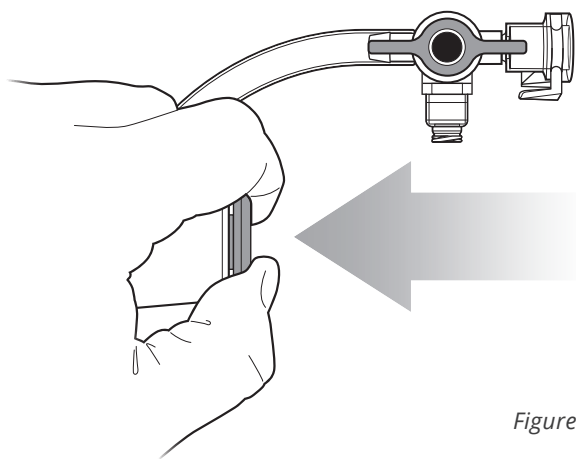

Figure 8
- b. Press and hold the hub defeater to actively defeat the hemostasis valve (See Figure 8):